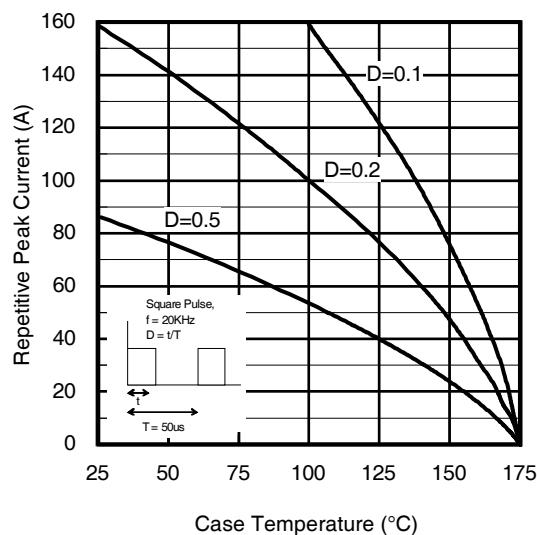

Fig 19. Maximum Diode Repetitive Forward Peak Current vs. Case Temperature
- ① $V_{CC} = 80\%$ (V_{CES}), $V_{GE} = 20\text{V}$, $L = 200\mu\text{H}$, $R_G = 10\Omega$.
- ② Pulse width limited by max. junction temperature.
- ③ Refer to AN-1086 for guidelines for measuring $V_{(\text{BR})\text{CES}}$ safely.
- ④ fsw = 20KHz, refer to figure 19.
- ⑤ Sinusoidal half wave, t=10ms.